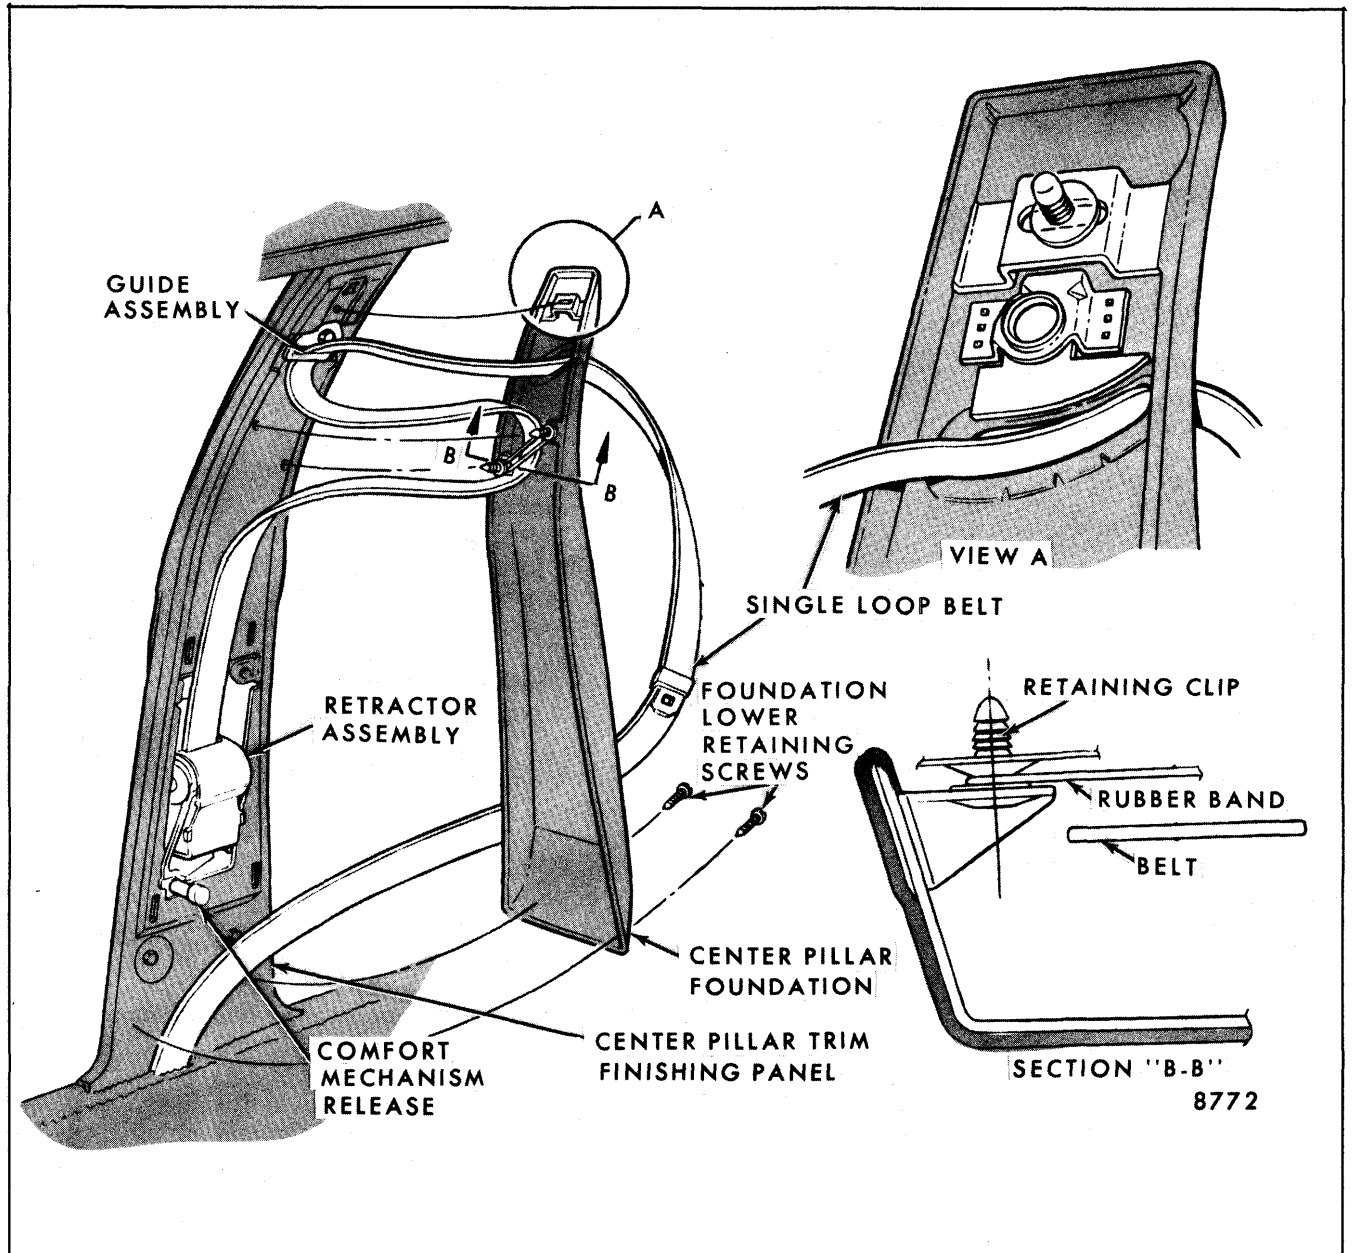

Fig. 5-7-Center Pillar Trim Support Panel
3. Remove six (6) attaching screws (Fig. 5-7).